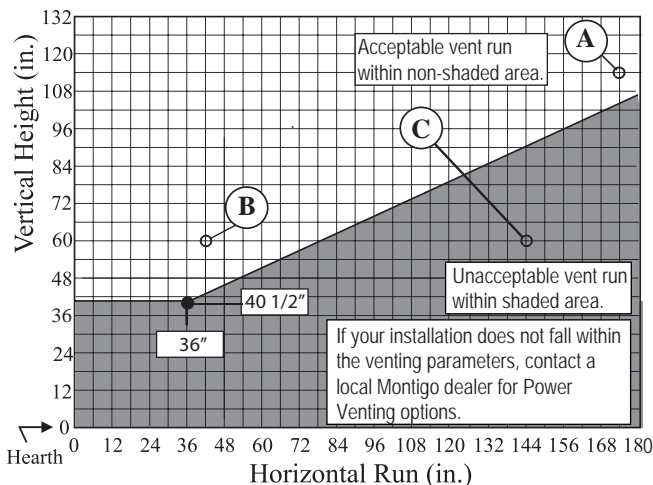

Figure 14. L42DF* Top Vent Venting Graph for wall mounted terminations.
- Once the proposed venting layout has been determined refer to Figure 14 or 16 to ensure the layout is acceptable.
- Venting runs *must* fall within the limits set by the venting graph, see Figure 14.
Measure the vertical height from the fireplace hearth to the centre of the termination and the horizontal run from the fireplace flue collar to the wall flange of the termination. Plot on the Venting Graph Figure 14 with an 'X'.
Figure 14a. Top Vented, wall mounted installation with one 90° bend. The vent run must comply with Venting Graph for Top vent, wall mounted terminations, Figure 14.